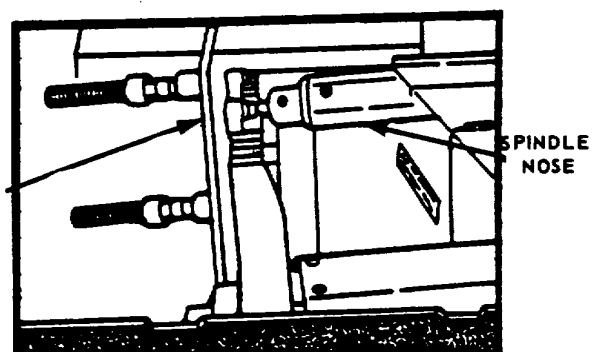

FIGURE 112
- e. Rotate gear box pulley by hand to position Back Plate as close as possible to Spindle Nose (see Figure 112).